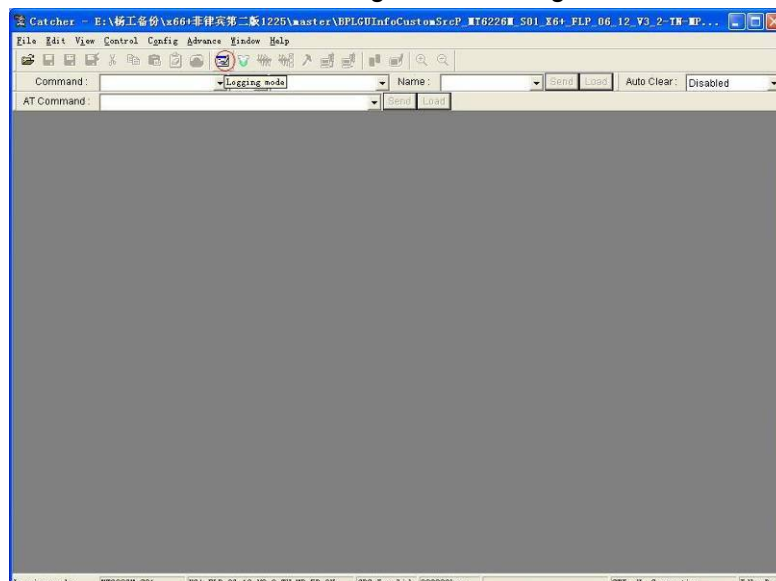
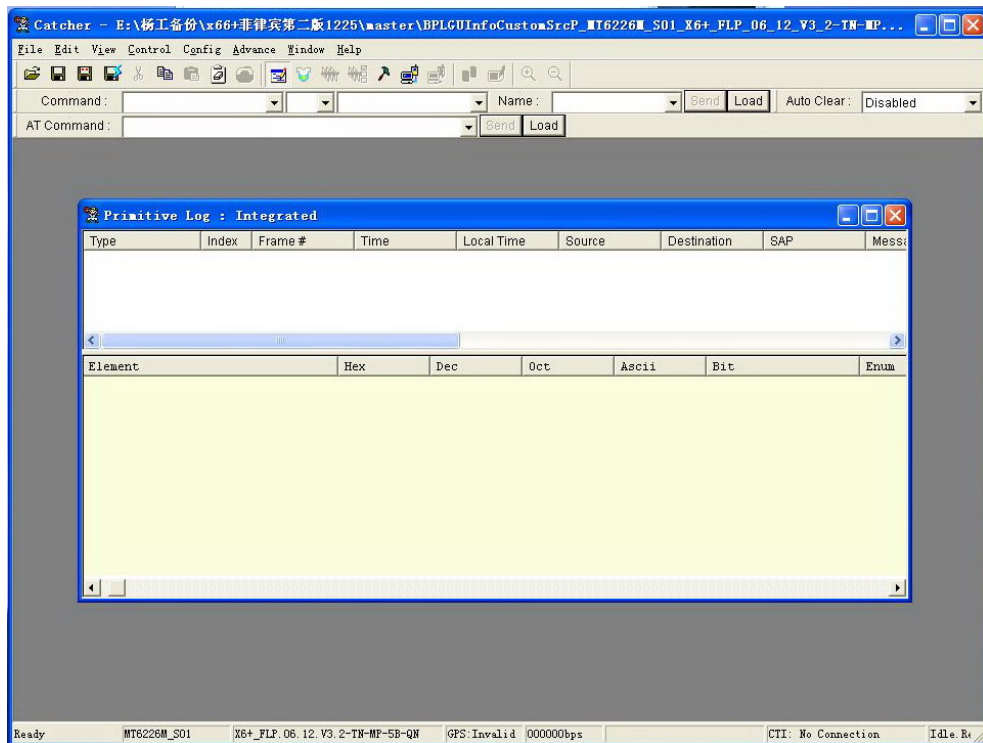

Figure 7
Figure 8
4.1 click the “Logging code” button in the red note in figure 7. Then figure 8 occurs.